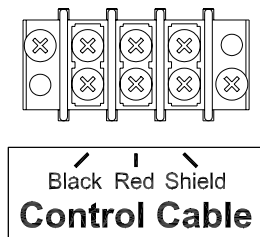

Figure 11 Control Cable Wiring Diagram
7. Connect the cable to the terminal block labeled **Control Cable** on the softball / baseball scoreboard junction chassis according to figure 11.